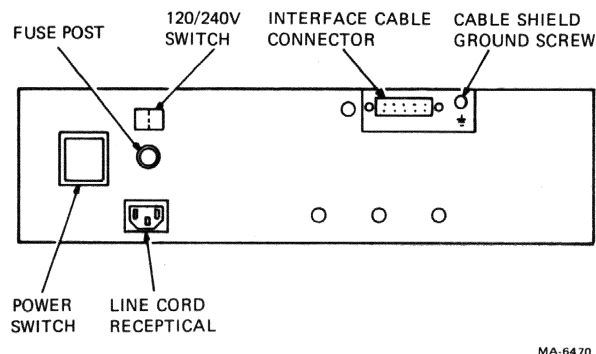
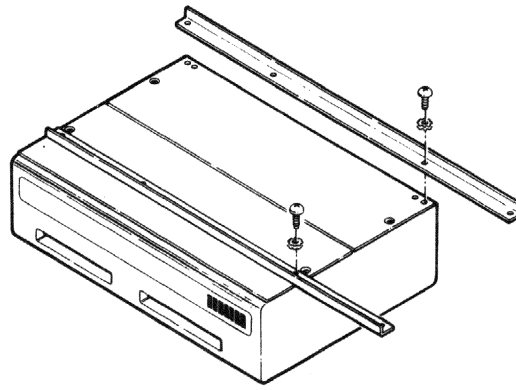

Figure 4-1 TU58-DA Rear Panel
Figure 4-2 Installing Support Brackets
Detachable line cords for 115 V and 230 V, and two fuses are supplied with the TU58-DA. The line cord receptacle meets European IEC standards. A switch on the back of the tape drive rear panel selects 115 V or 230 V (Figure 4-1).
1. Disconnect the power cord and interface cable from the rear panel of the TU58 (Figure 4-1).
1. With the power cord and interface cable removed (Figure 4-1), carefully place the TU58-DA upside-down on a flat working surface so the front of the device is facing you.
2. Remove the rubber feet if attached by removing the screws that hold them in place (Figure 4-1). Refer to Figure 4-2 and align the two support brackets on the bottom of the TU58-DA so they are flush with the left side. Fasten down the right side of each support bracket with two screws and two lock washers.
1. Disconnect the power cord and interface cable from the rear of the TU58 (Figure 4-1).